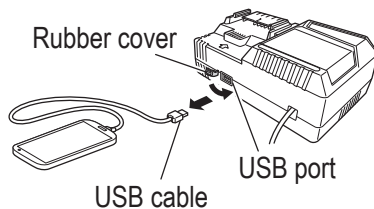

Fig. 25
- Unplug the power cord from the electrical outlet. (**Fig. 25**)